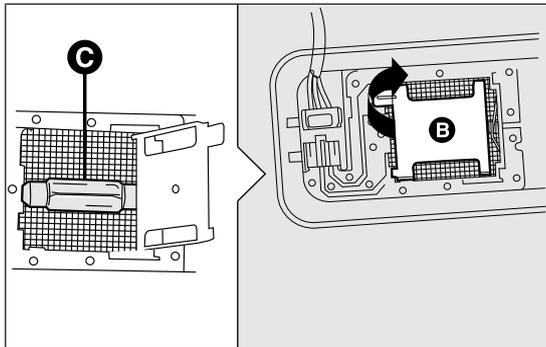

fig. 153
- open the lid B fig. 153 as shown;
- remove bulb C fig. 153 by releasing it from the side contacts, then insert the new bulb and make sure it is correctly clamped between these contacts;